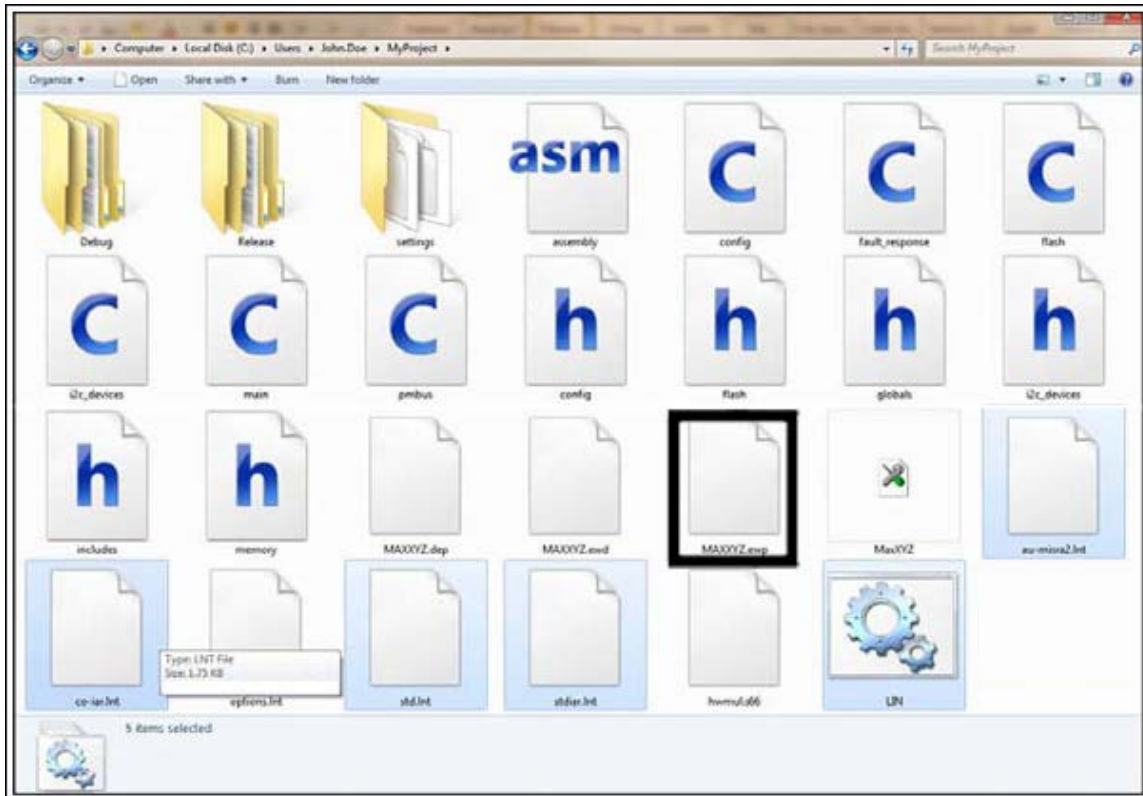

Figure 1. IAR project root directory.
3. Unzip PC-LintFiles.zip into your IAR project root directory. The project root directory is the folder which contains the .ewp file for your IAR project. This example is located in C:\Users\John.Doe\MyProject. **Figure 1** shows these five files in the IAR project root directory which also contains various *.C and *.H files, along with the *.ewp file.